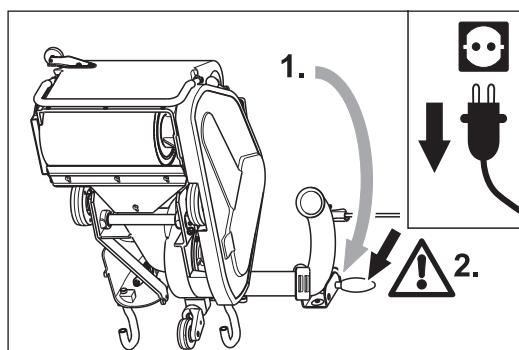

Fig. 43 Tilt the machine backwards (1.). Ensure that the machine is standing securely (2.)!
- 2 Tilt the machine backwards over the safety guards so that you can see the wheel bearings (Fig. 43, 1.). **Ensure that the machine is standing securely (Fig. 43, 2.)!**
- 3 Tilt the machine backwards over the safety guards (Fig. 43, 1.). **Ensure that the machine is standing securely (Fig. 43, 2.)!**